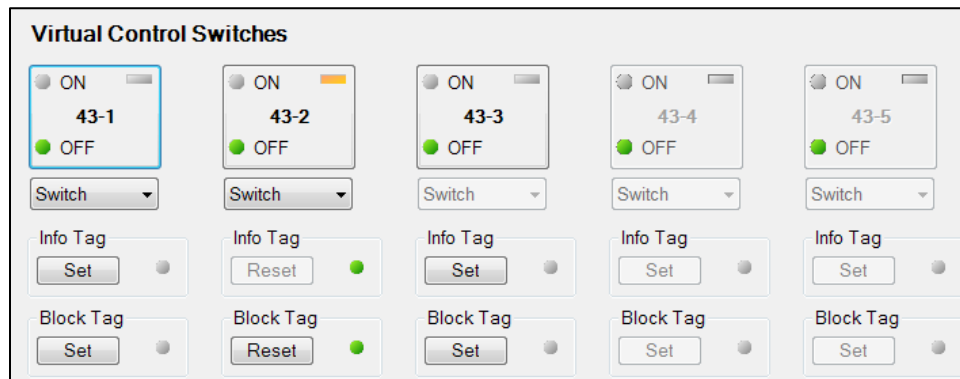

Figure 72-2. BESTCOMSPPlus Virtual Switches Control Screen
- Step 4: Use the Metering Explorer of BESTCOMSPPlus to open the Control, Virtual Switches tree branch (Figure 72-2). Using select-before-operate, perform the following steps to control a virtual switch.
- Step 3: Use the Metering Explorer of BESTCOMSP*lus* to open the Control, Virtual Switches tree branch (Figure 72-2). Using select-before-operate, perform the following steps to control a virtual switch.